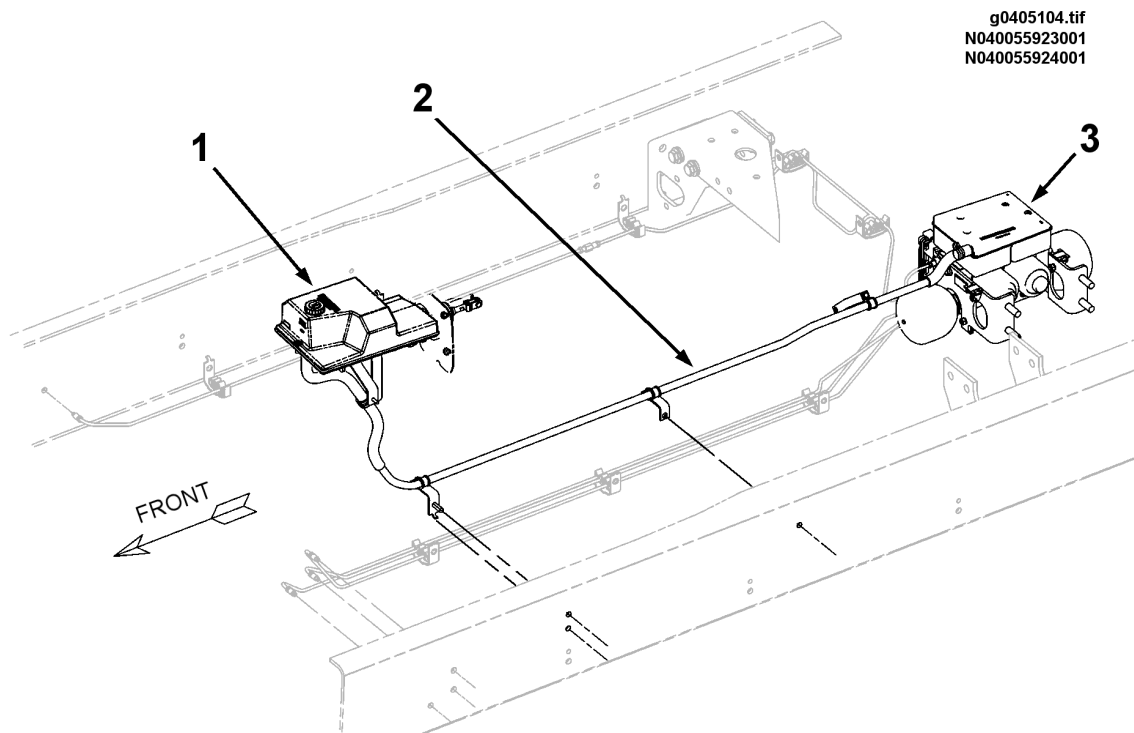

Figure 37 Low Pressure Hose from Master Cylinder to HCU
6. Carefully clean the outside of the Hydraulic Compact Unit (HCU) and the Master Cylinder (MC) reservoir assembly.
7. Clean the area of the crossmember that the low pressure hose passes over, and the clamps that secure the hose to the chassis. Refer to FIGURE 37.
10. Remove the clamps (see FIGURE 37) securing the middle section of the low pressure hose to the chassis. Note the clamp positions to assist installation of new hose.